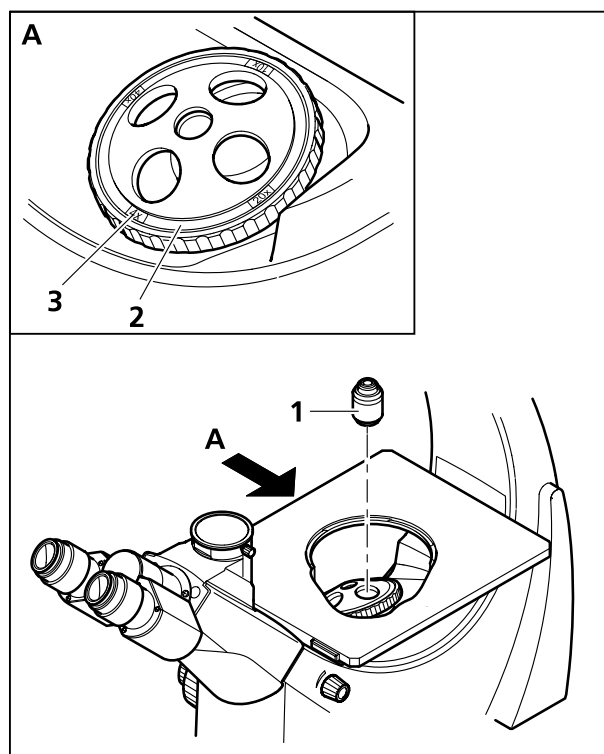

Fig. 3 Screwing in the objectives
- Remove the dust caps from the location holes of the objective nosepiece (Fig. 3/2).
- Screw the objectives (Fig. 3/1) in ascending order into the location holes until the stop is reached.
- Affix the supplied stickers (Fig. 3/3) indicating the objective magnification, to the corresponding positions of the objective nosepiece.
Affix the stickers so that you can read from the left side (Fig. 3/3) the magnification of the objective just positioned in the light path.